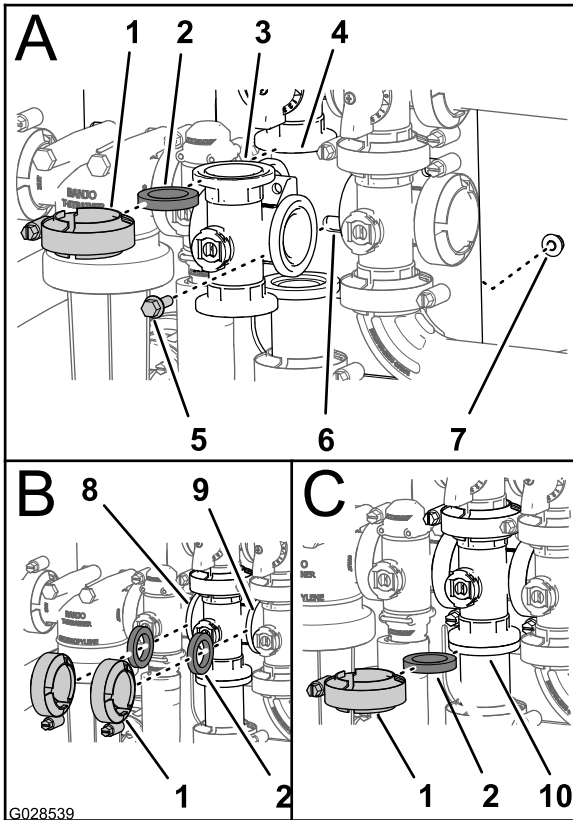

Figure 102
1. Align the flange of the agitation valve manifold, a gasket, and the flange of the agitation bypass valve (A of Figure 102).
2. Assemble the agitation bypass valve, gasket, and agitation valve manifold with a clamp and tighten by hand (A of Figure 102).
3. Align a gasket between the flanges of the rate control valve and the agitation valve manifold (B of Figure 102).
4. Assemble the rate control valve, gasket, and agitation valve manifold with a clamp and tighten by hand (B of Figure 102).
5. Align a gasket between the flanges of the agitation valve manifold and the master boom valve (B of Figure 102).
6. Assemble the agitation valve manifold, gasket, and master boom valve with a clamp and tighten by hand (B of Figure 102).
7. Align a gasket between the flanges of the agitation valve manifold and the adapter fitting for the agitation throttle valve (C of Figure 102).
8. Assemble the agitation valve manifold, gasket, and adapter fitting with a clamp and tighten by hand (C of Figure 102).